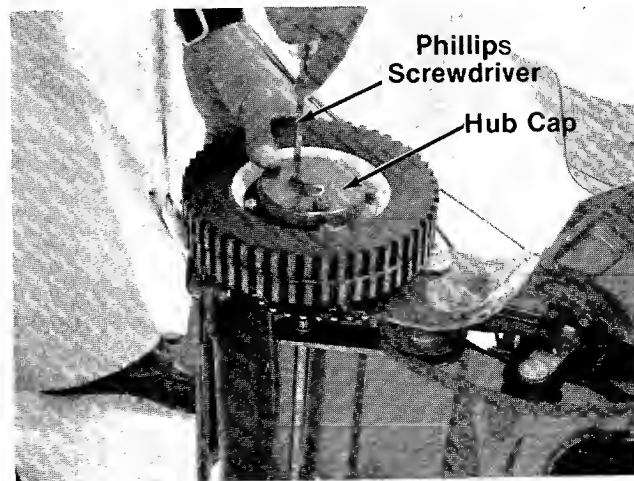

FIGURE 20.
4. Remove the right hand rear wheel hub cap by removing four screws. A phillips screwdriver is required. See figure 20.